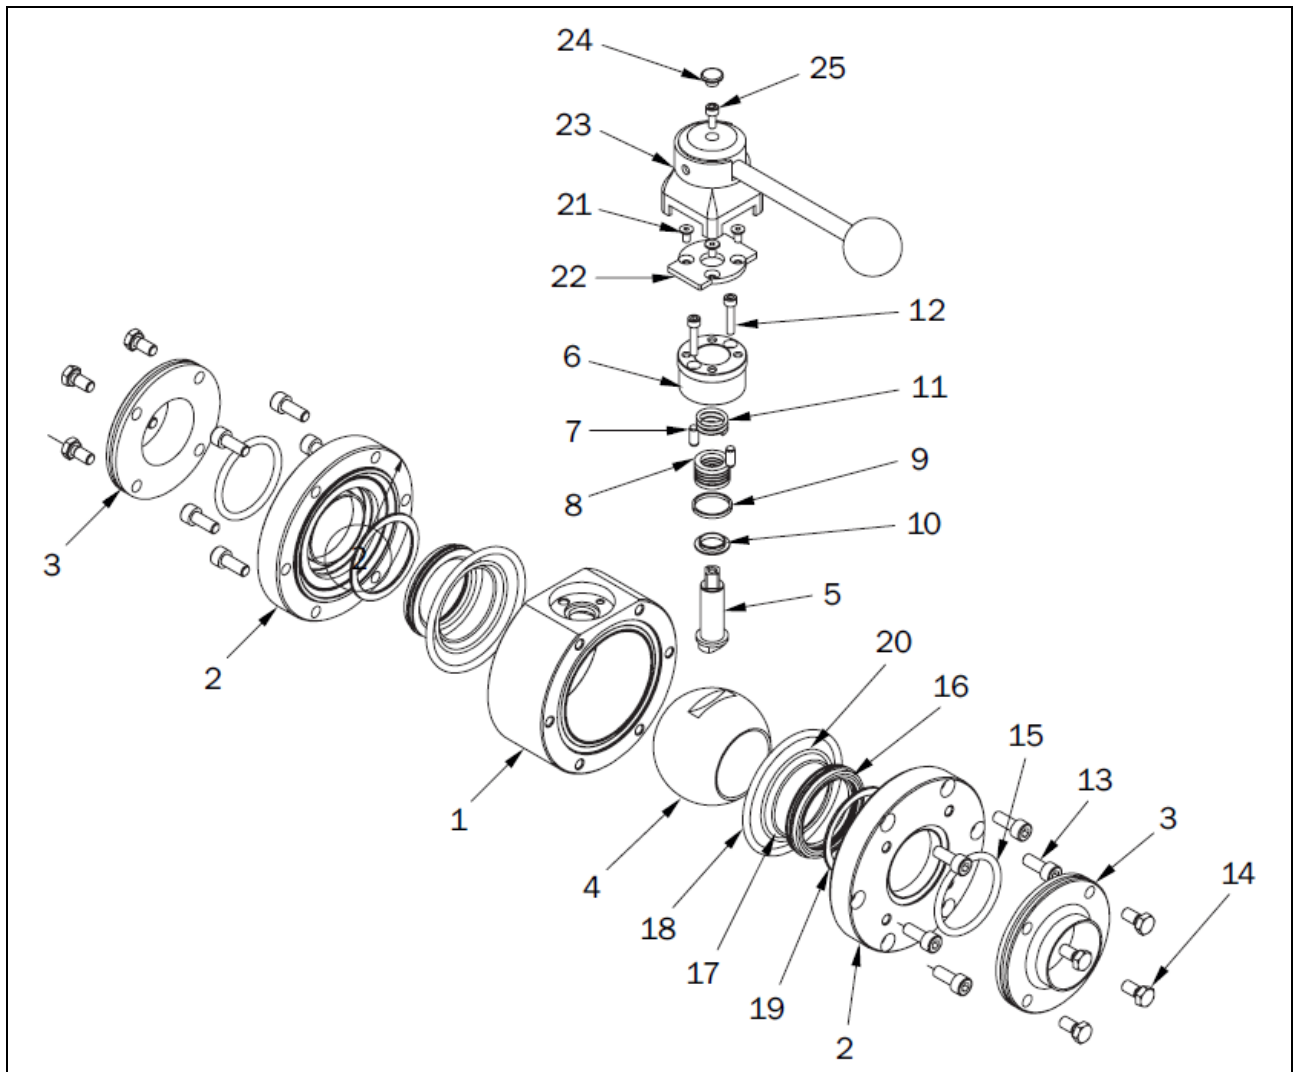
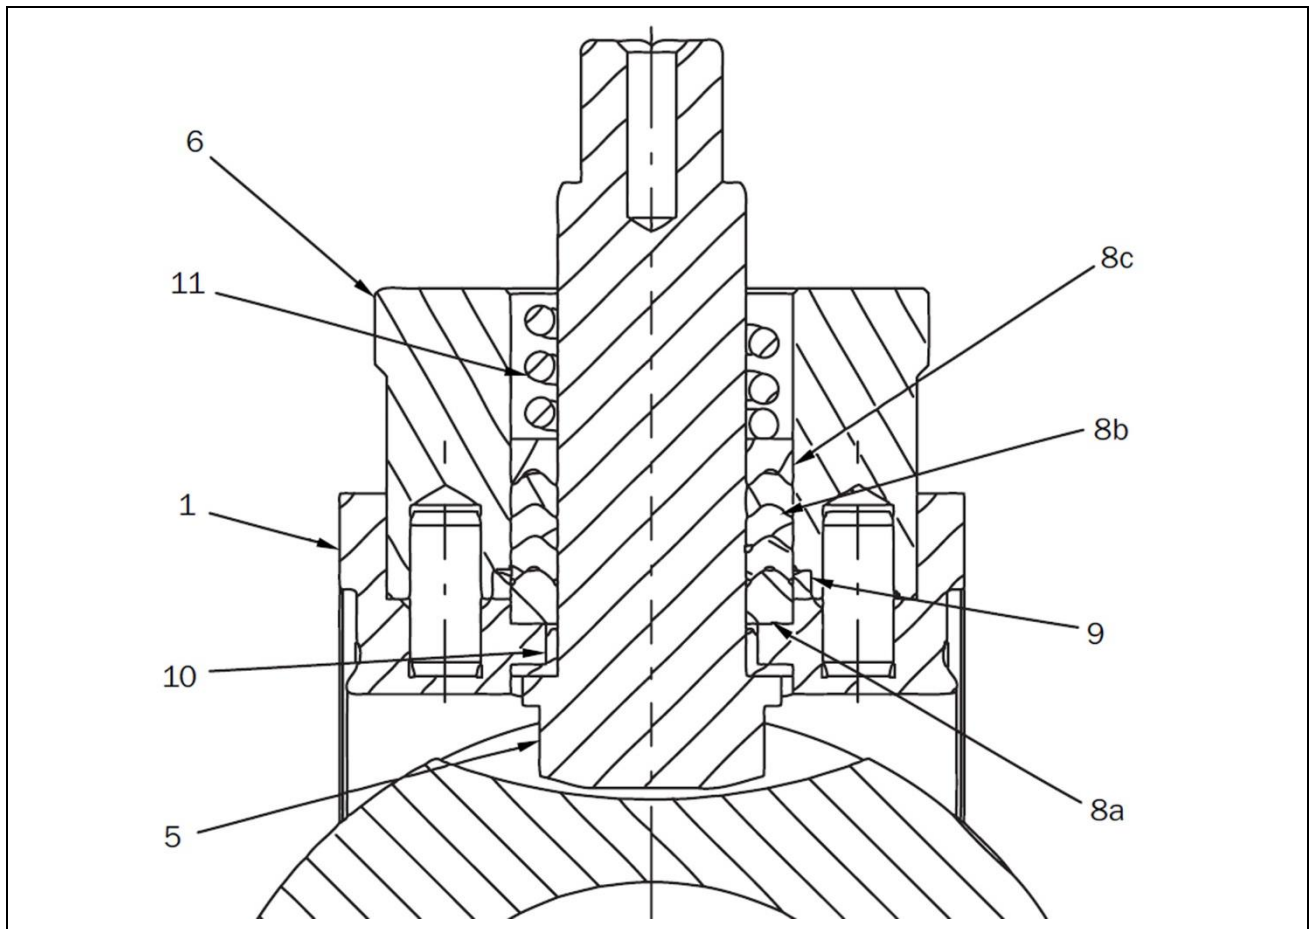
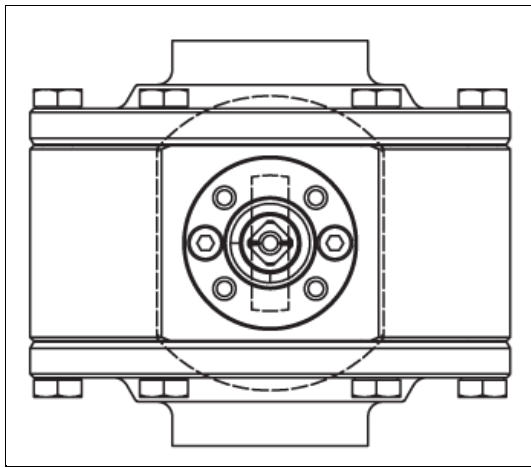

Fig. 6-1: Structure of a ball valve with handle
Fig. 6-4: V seal ring set
Fig. 6-6: Ball position
- Undo the screws (Fig. 6-1, item 14) on the flanges with weld-on ends (Fig. 6-1, item 3).
Undo the screws (Fig. 6-1, item 14) from the outer flanges (Fig. 6-1, item 3).
When welding into the piping, take care to ensure correct positioning of the fastening holes and correct plane-parallel alignment of the flange connection surface (Fig. 6-1, item 3).
Position the valve body between the outer flanges. Take care to ensure that the O-rings are not being cut into and fasten the flange tightly to the housing using the screws (Fig. 6-1, item 14).
- Undo the screwed connections directly at the ball valve for the thread/thread, thread/liner with nut versions, or the hexagonal bolts (Fig. 6-1, item 14) for intermediate flange and DIN 11864-2 versions.
With the weld/weld version, release the next nearest flange connection in the line to the ball valve. Alternatively, undo the hexagonal screws (Fig. 6-1, item 14).
- Depending on the version, release the nuts of the screwed connection or release the bolts. (Fig. 6-1, item 14) for intermediate flange, for weld-on ends (Fig. 6-1, item 13).
- Release the screws (Fig. 6-1, item 14, intermediate flange version) and remove the inner flange.
- Turn the ball (Fig. 6-1, item 4) to closed position.
- Remove the PTFE seal rings (Fig. 6-1, item 16), the O-rings (Fig. 6-1, items 17 and 18) and the rectangular ring (Fig. 6-1, item 19).
- Pull the spindle (Fig. 6-1, item 5) downwards and out of the housing.
- Remove the plain bearing (Fig. 6-1, item 10).
- Remove the V seal ring set (Fig. 6-1, item 8) and the seal ring (Fig. 6-1, item 9).
- Clean the ball and the groove (Fig. 6-1, item 4).
- Lightly grease the seals (Fig. 6-1, item 18, 20) with the approved grease.
- First insert the plain bearing (Fig. 6-1, item 10) and then the spindle (Fig. 6-1, item 5) from the inside, then fit the V seal ring set (Fig. 6-1, item 8) from the outside between the spindle (Fig. 6-1, item 5) and spindle dome (Fig. 6-1, item 6).
1. Lower pressure ring (Fig. 6-4, item 8a)
2. V-rings with the opening facing down (Fig. 6-4, item 8b)
3. Upper pressure ring (Fig. 6-4, item 8c)
- Fit the compression spring (Fig. 6-4, item 11) above the V seal ring set (Fig. 6-1, item 8).
- Insert the O-ring (item 20) and the rectangular ring (item 19) in the corresponding groove of the ball valve inner flange (Fig. 6-1, item 2).
- Fit the O-rings (item 17, 20) on the PTFE seal ring (item 16).
- Carefully place the counter flange on the flange without damaging the gasket (Fig. 6-1, item 7).
- Install the locking plate (Fig. 6-1, item 22) using the countersunk screws (Fig. 6-1, item 21). The locking plate must be pressed towards the valve to ensure pre-tensioning of the spring.
- Turn the spindle (Fig. 6-4, item 5) as shown in Fig. 6-4 and Fig. 6-6.
- Bolt on a flange with the screws (Fig. 6-1, item 13) evenly, working across diagonals.